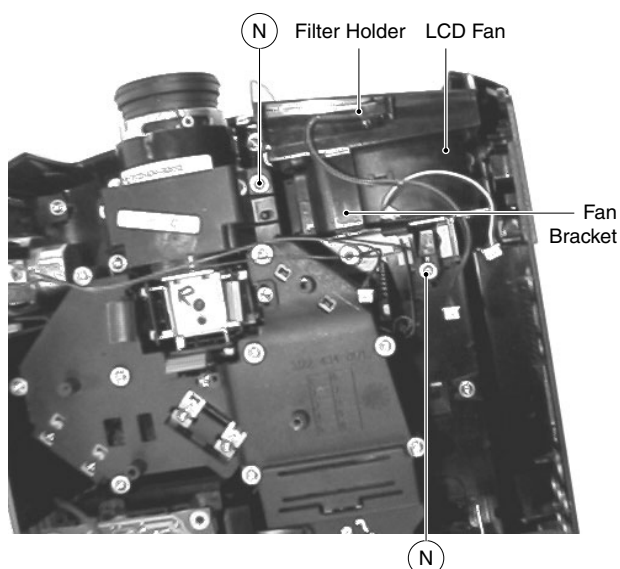

Fig. 11
5. Remove screws "N" (Fig. 11). After lifting the fan bracket, the filter holder and dust filter can be removed.